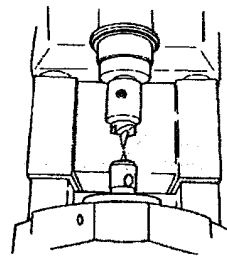

Fig.3
3. Move the headstock toward the tailstock as far as possible and lock down the headstock. Extend the quill until the tips of the drive center and the cup center almost touch as in Fig.3.